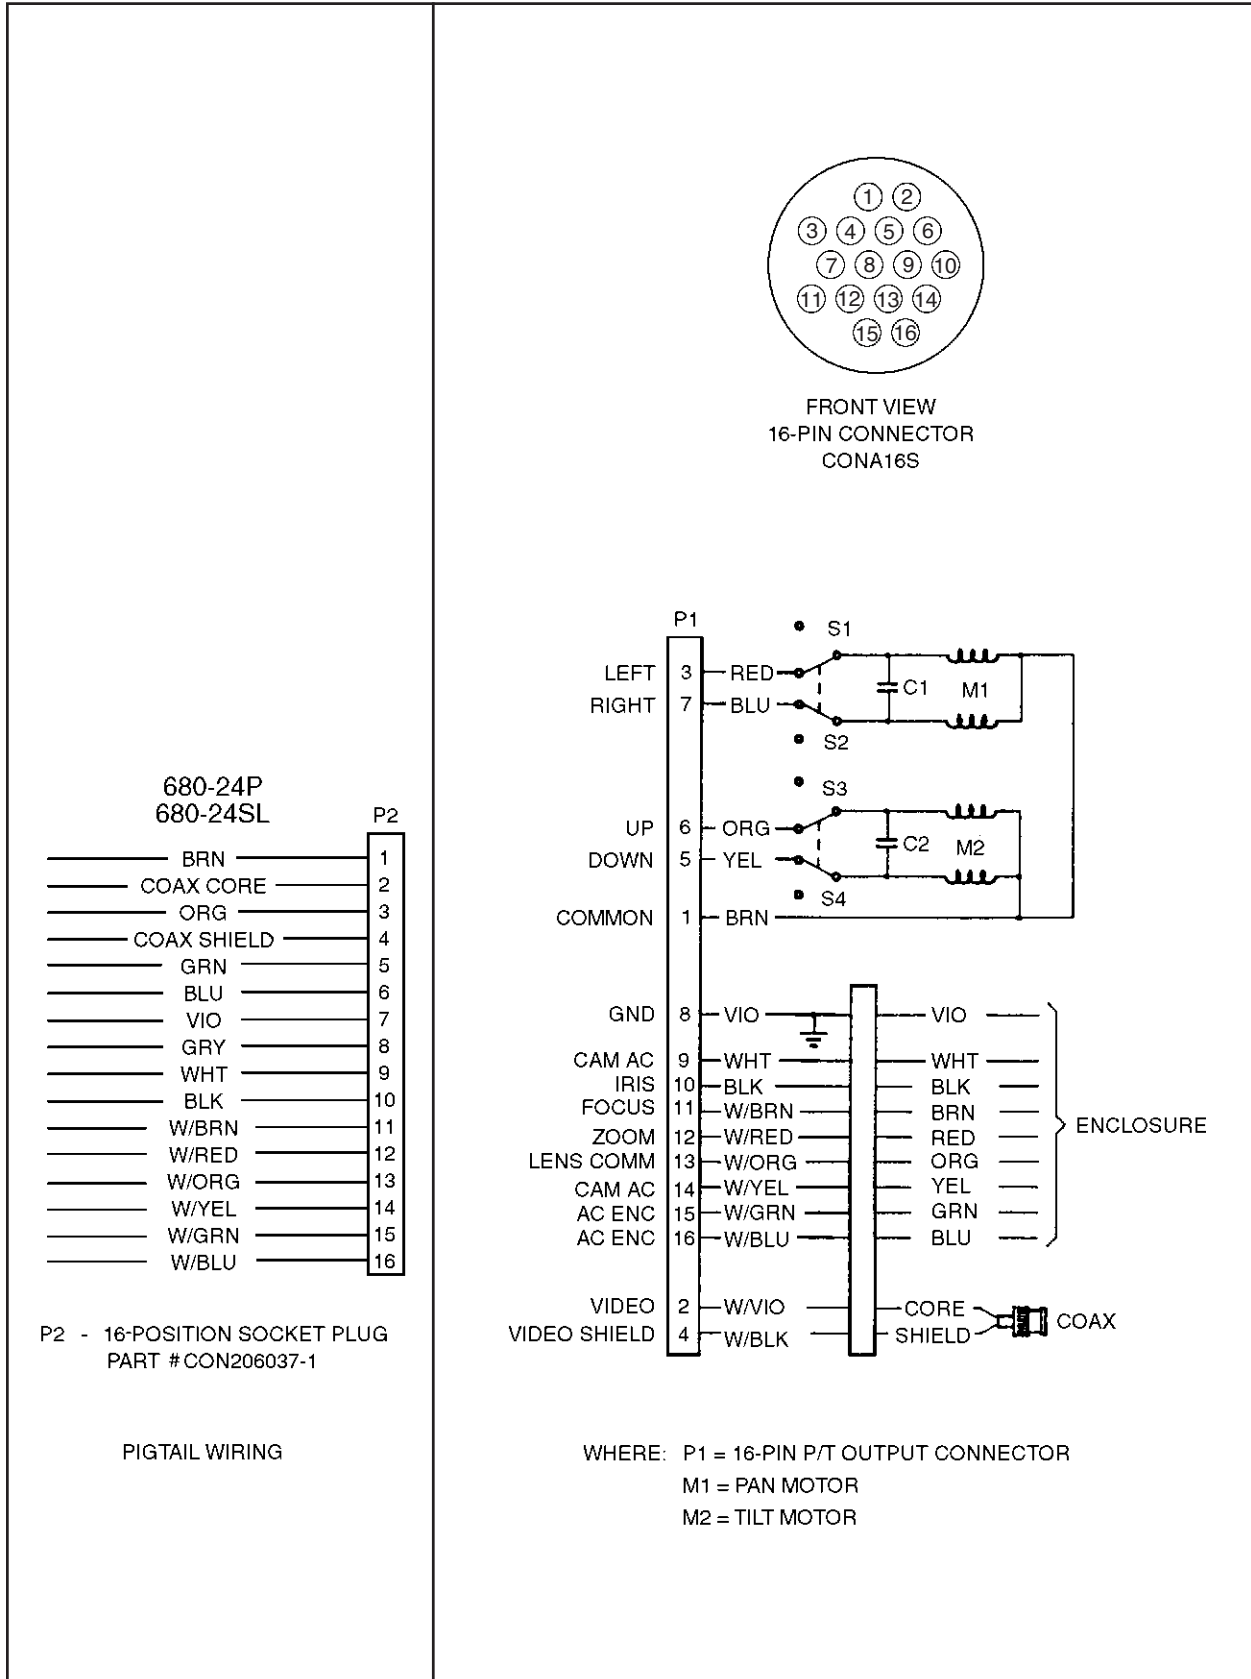

Figure 2. PT680-24P Wiring Schematic
1. Connect the gray cable from the side of the pan/tilt unit to the enclosure. Refer to Figures 2 through 7 for wire designations. Leave adequate slack in the cable to permit movement of the enclosure without putting strain on the cable.
2. Connect the other end of the cable to the control unit. Refer to Figures 2 through 7 for wire designations. Refer to Table A for the maximum cable distances for wiring power to the pan/tilt unit. If an RB24 Relay Box is not used, the maximum cable length is distance "B" in the table.